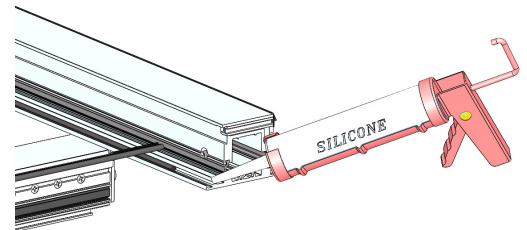

Figure 18:
- Apply sealant to the top and bottom rail where they make contact with the vertical stiles (Figure 18).